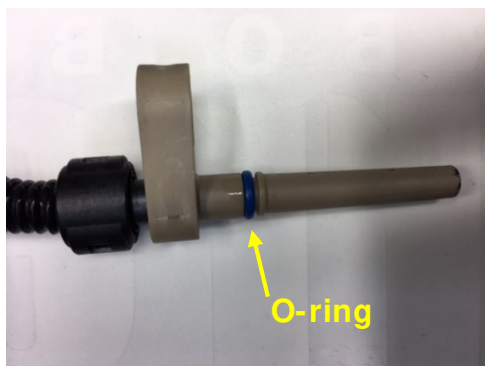

Fig. 15
15. Locate your new G-series speed sensor 819154-001 from G-Series Speed Sensor Kit. Apply a light coat of oil on O-ring located on the speed sensor body. (Fig. 15)